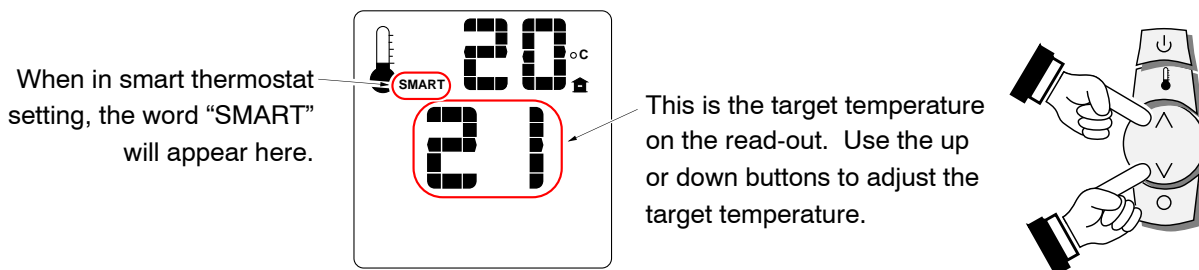

Figure 6
- **SMART THERMOSTAT** – While in smart thermostat, the transmitter will control the burner to achieve the target temperature (see Figure 6 below). Flame height will be adjusted up or down to allow operation without turning the burner on and off (also called “smart modulation”). To adjust the target temperature, press the up and down buttons until a suitable temperature is achieved.